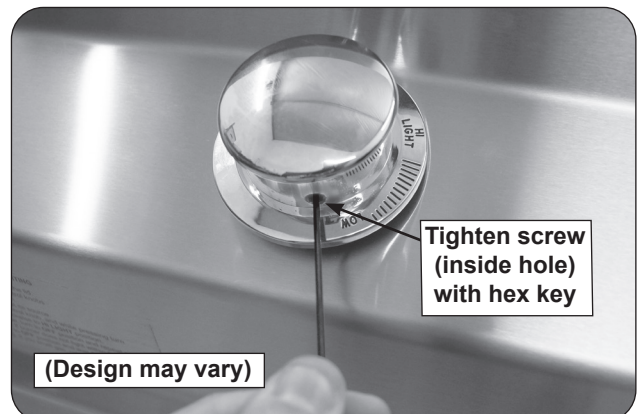

Fig. 30-4 Tighten screw to lock knobs
3. Insert the included .078" (2mm) hex key through the small hole located on the side of the knob and fully tighten the screw (see Fig. 30-4).